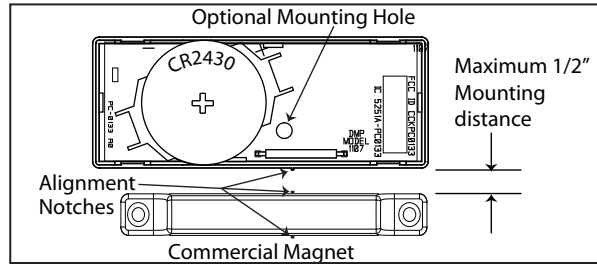

Figure 6: Optional Commercial Magnet
5. When using the commercial magnet, snap the magnet into the commercial housing, then using the supplied #4 flat head screws, mount the magnet using the alignment notches as a guide (see Figure 6).